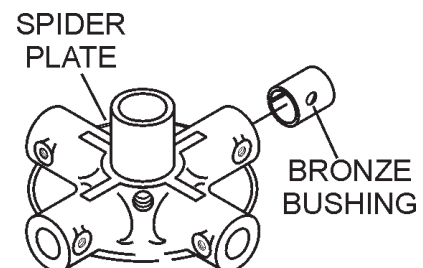

Figure 42. Bronze Bushings
4. Examine the bronze trowel arm bushing insert (Figure 42), and clean if necessary. Replace the bushing if it is out of round or worn.